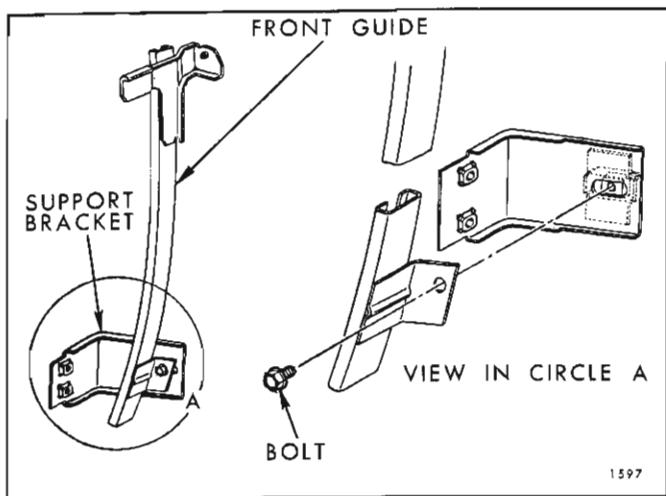

Fig. 1D70—Front Guide to Support Bracket Attachment - 68069 Style
2. Remove lower sash channel cam attaching screws (Fig. 1D76 for "closed" styles, 1D75 for "hardtop" styles).
4. Remove inner panel cam attaching bolts (Fig. 1D76 for closed styles, Fig. 1D75 for "hardtop" styles).